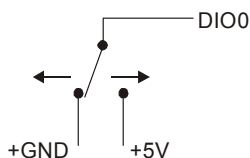

Figure 4. Schematic showing switch detection by digital channel DIO0
When you configure the digital bits for input, you can use the RedLab TC digital I/O terminals to detect the state of any TTL-level input. Refer to the schematic shown in Figure 4. If you set the switch to the +5V input, DIO0 reads *TRUE* (1). If you move the switch to GND, DIO0 reads *FALSE* (0).